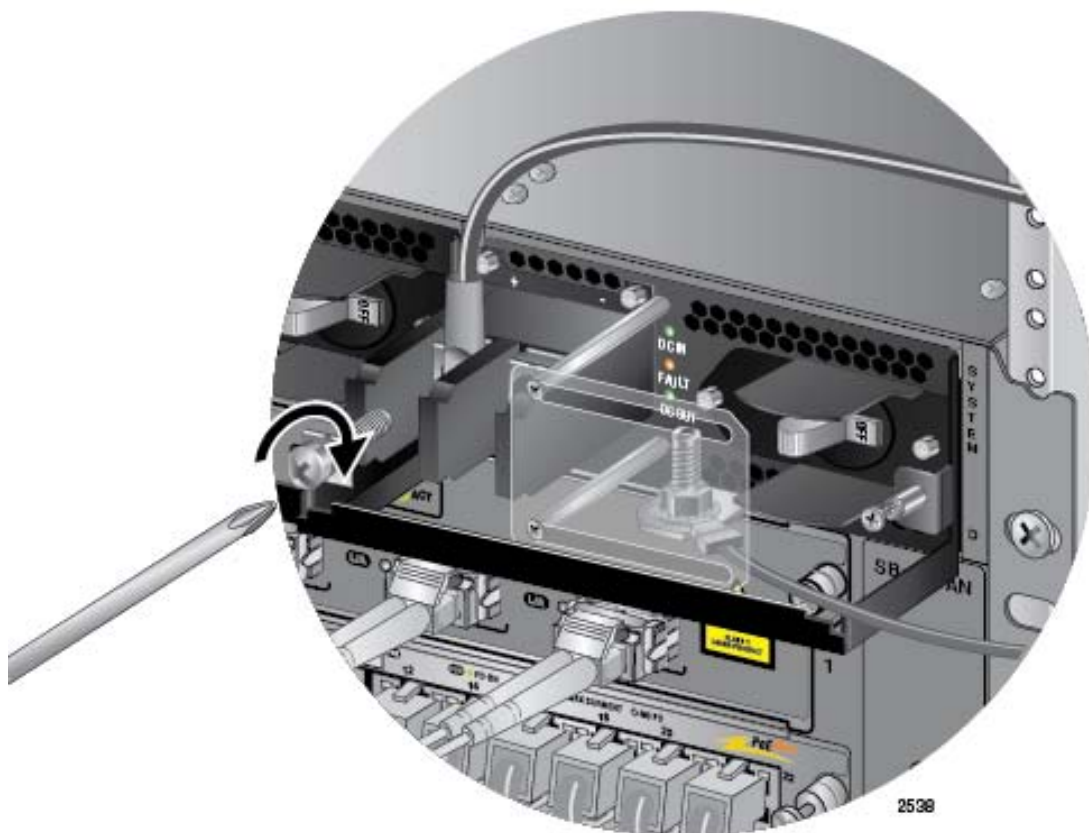

Figure 130. Connecting the Positive (+) Power Wire with a Straight Terminal
6. With a #3 Phillips-head screwdriver, connect the positive (+) power lead wire to the positive terminal on the power supply, with one of the terminal screws removed in the previous step. The positive terminal is on the left. You may attach the terminals with the wires either above or below the terminal block. Figure 130 on page 192 shows the wires above the terminal block.